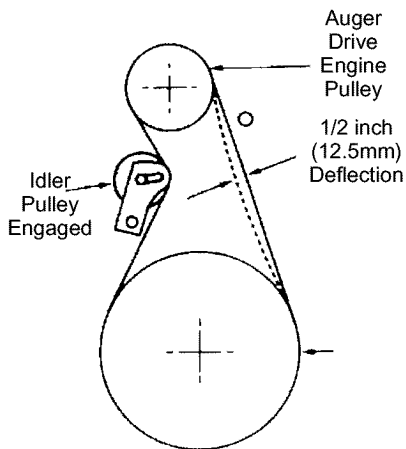

Figure 37
5. Have someone engage auger drive clutch. Check tension on belt (opposite idler pulley). Belt should deflect about 1/2 inch (12.5 mm) with moderate pressure (Figure 37). You may have to move idler pulley more